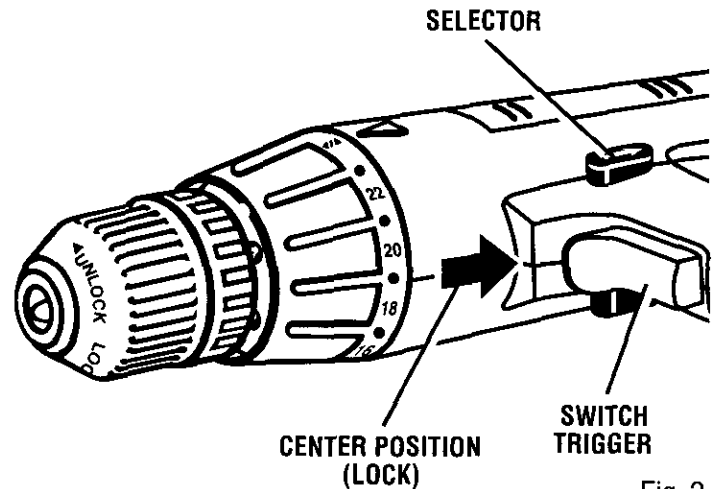

Fig. 2
See Figure 2.
- Lock switch trigger on your drill by placing the direction of rotation selector in center position. See Figure 2.
- Lock switch trigger or your drill by placing the direction of rotation selector in center position. See Figure 2.